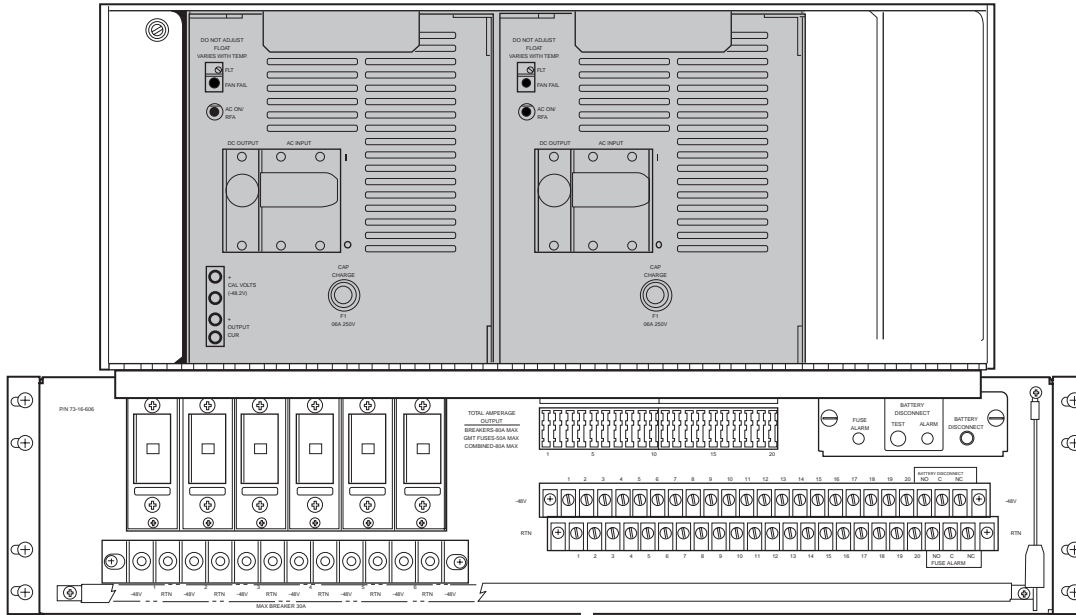

Figure 38. Installing Alarm and Control Assembly
- 8 Install the ACA plug-in in the third slot of the rectifier shelf; tighten the top captive fastener as shown in Figure 38 on page 44.
- 10 Reinstall the blank faceplate over the fourth (right-hand) slot on the shelf as shown in Figure 38 on page 44.